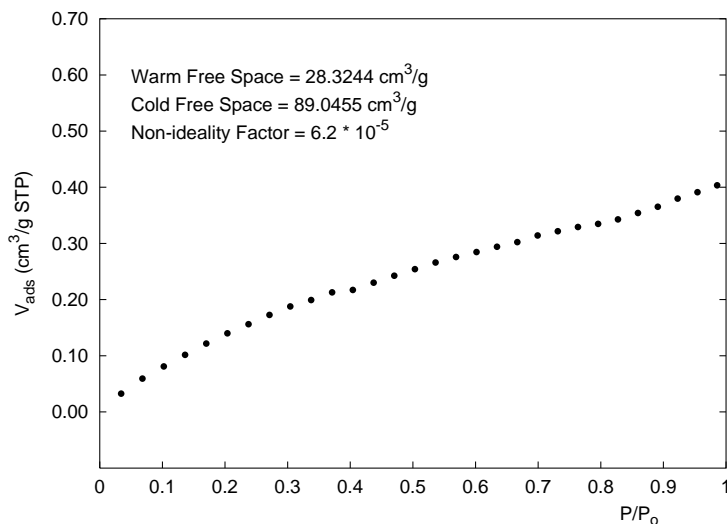

Figure 1. Example of blank tube analysis
3. Perform a blank tube analysis using the sample file you created (step 2). Figure 1 is an example of a blank tube analysis.